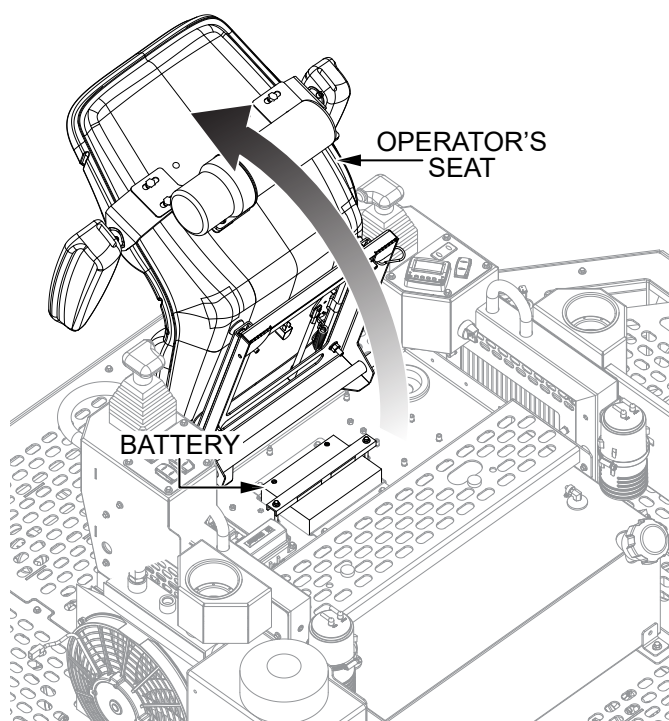

Figure 13. Battery Access
1. Tilt the **operator's seat** forward to access the **battery** (Figure 13).